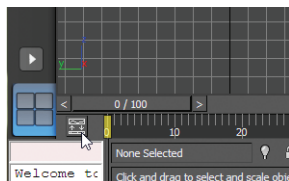

FIGURE 5.14 Click the Open Mini Curve Editor button.
2. At the bottom-left corner of the interface, click the Open Mini Curve Editor button shown in Figure 5.14.